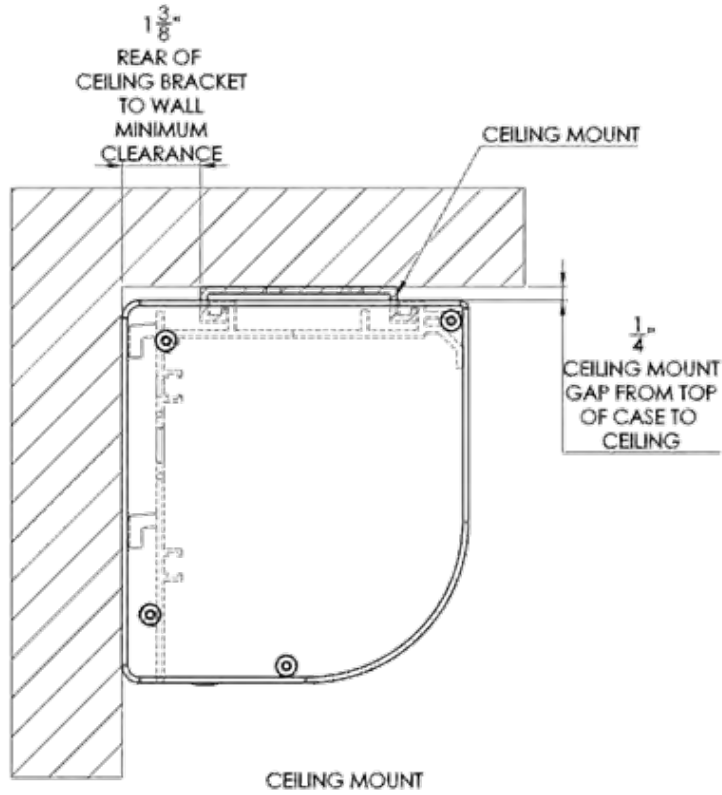
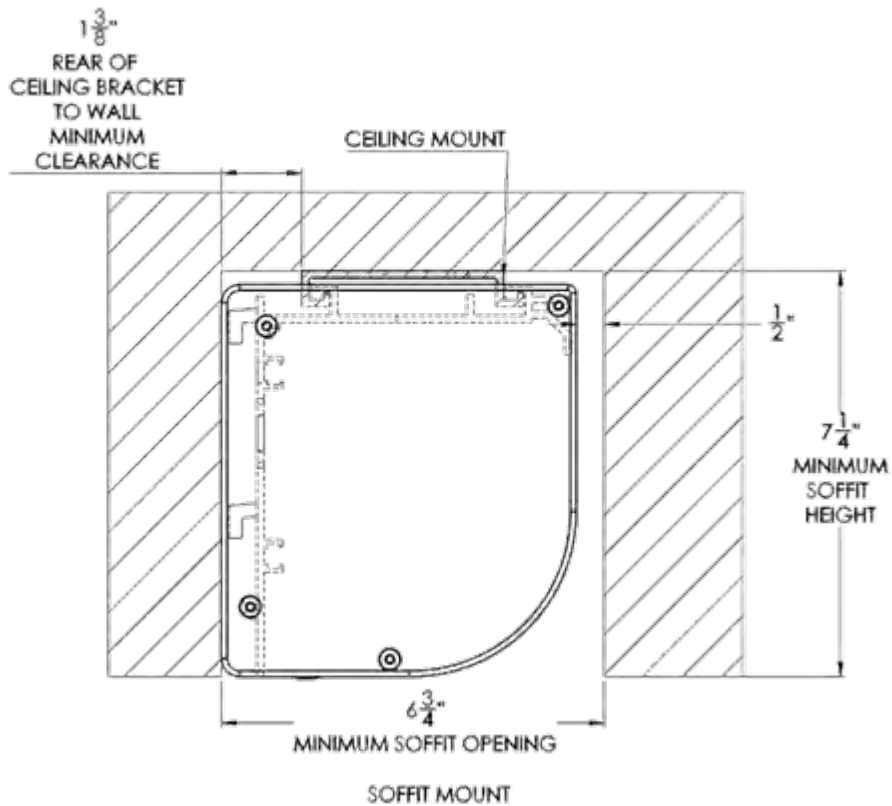

Figure 11. Ceiling mount detail with minimum clearance
Figure 12. Soffit mount detail with minimum clearance
7. For the minimum clearance dimensions for both ceiling mount and soffit mount, (see Figure 11) and (see Figure 12) respectively